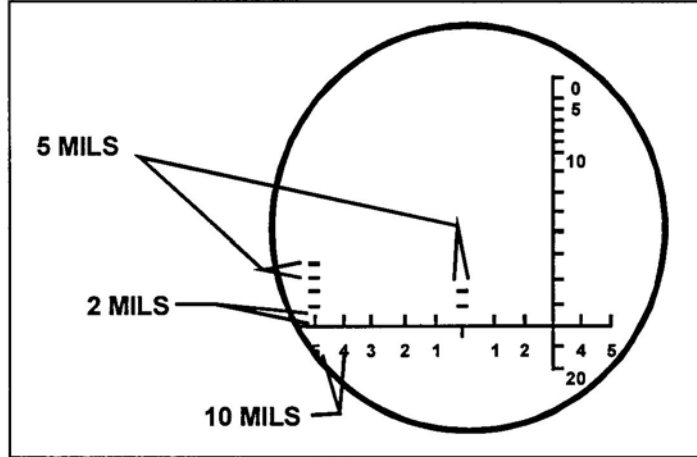

Figure 6. Binocular reticle.
- a. Binocular-reticle method. Fire control equipment requires precise calculations and adjustments, so it is marked in mils. You can use the reticle in a pair of binoculars to determine the width, length, or height of a target in mils (Figure 6).